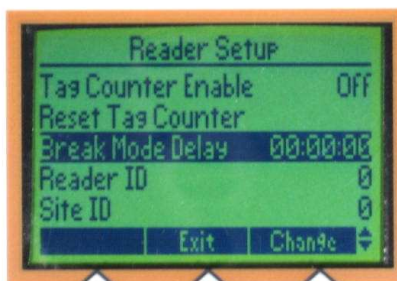

FIG. 71: Break Mode Delay Screen
1. Press the CHANGE Key and highlight the "Break Mode Delay" Change Value Screen. See Fig. 71.